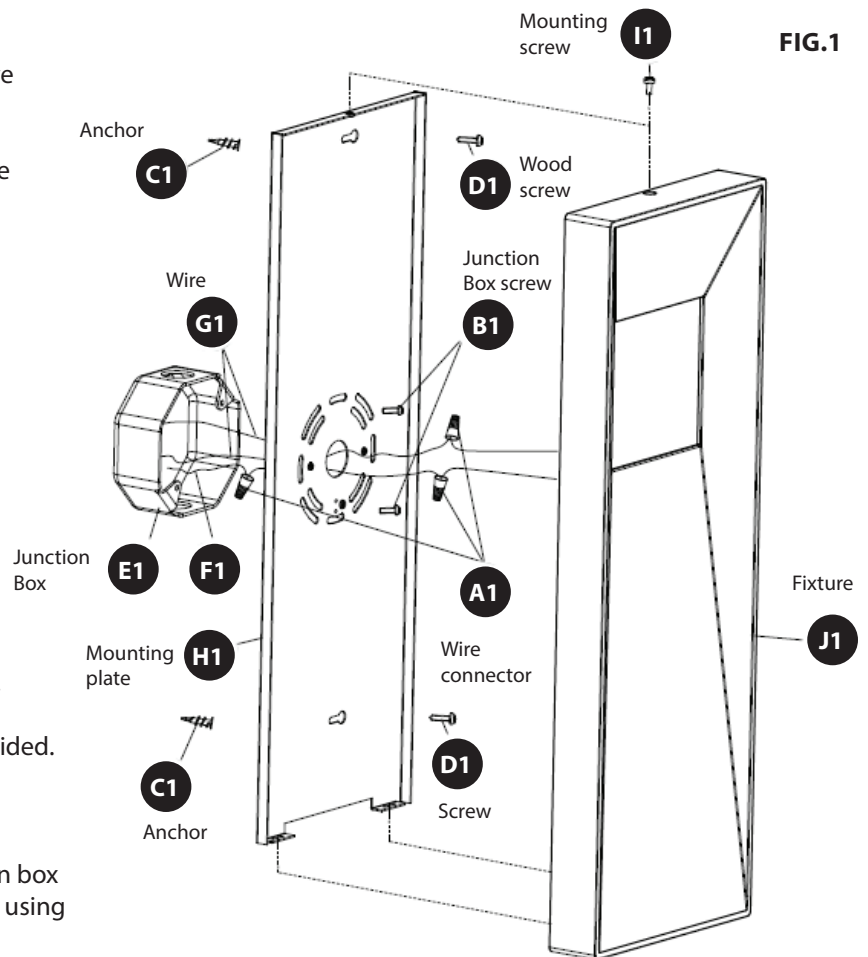

FIG.2
CONNECTING THE WIRES (Fig. 2)
5. Connect the electrical wires as shown in Fig. 2 making sure that all wire connectors (A1) are secured. Fixture and junction box ground wires should be connected to mounting plate using green screw provided. After wires are connected, tuck them carefully inside the junction box.